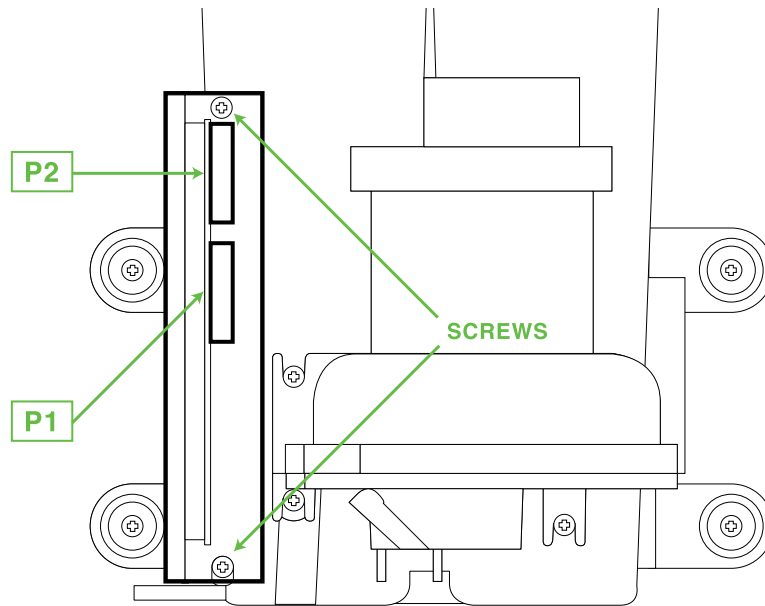

Figure 5-7. Motor Controller
2. Referring to Figure 5-7, remove connector P1 (coming from the Turbine) and P2 (coming from the Power Supply) from the Motor Controller noting the edges that engage the locking tabs.
3. Remove the two (2) screws securing the Motor Controller bracket to the muffler assembly.